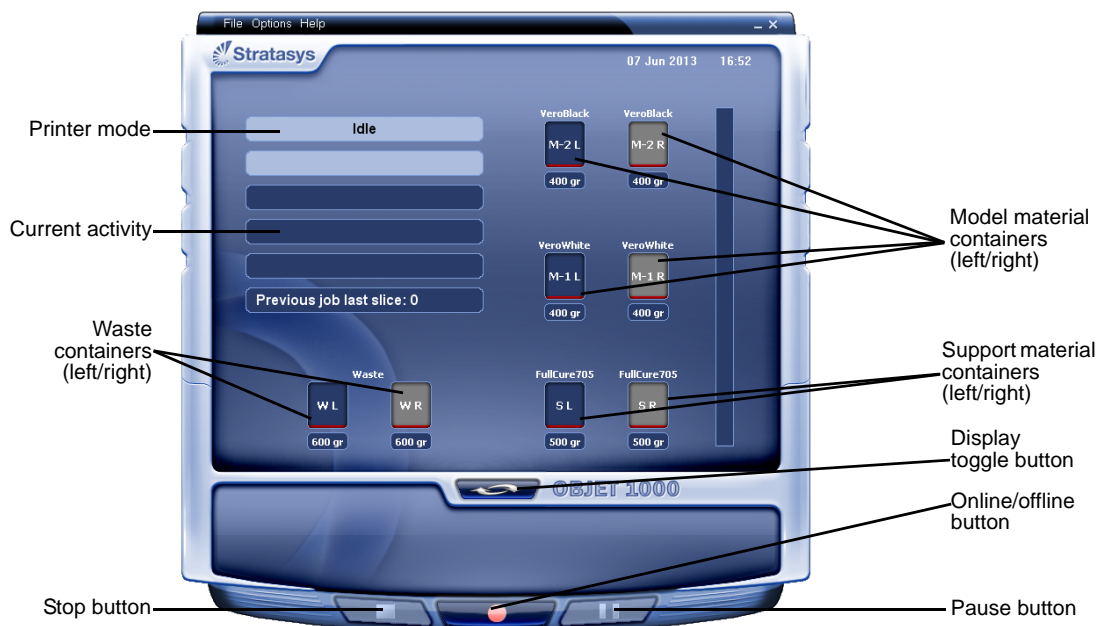

Figure 6-3: interface
Objet1000 Plus printers use four containers of Model material and two containers of Support material, each weighing 18 kilograms when full. A graphical representation of the containers loaded and their current weight appears in the printer interface (see figure 6-3).
5. Check the printer interface to make sure that the new container is detected and that its weight is displayed (see figure 6-3).
3. Make sure that there is sufficient Model and Support material loaded, as indicated in the printer interface (see figure 6-3). You may want to replace the containers of Model and Support material currently loaded in the printer to avoid the need for replacing them during printing.
1. If the printer is in offline mode, switch it to online mode by clicking the red button at the bottom of the printer interface (see figure 6-3 on page 3).